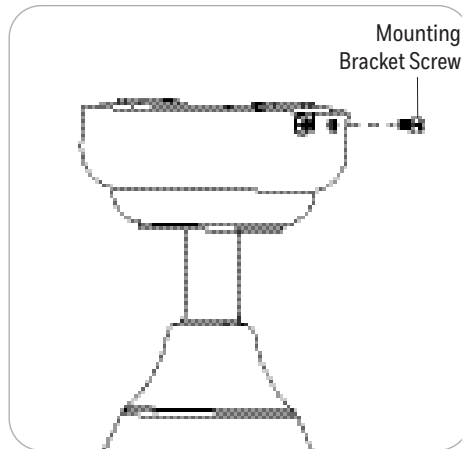

Figure 6.2
2. Align the canopy over the loosened mounting bracket screws. Place the J-slot of the canopy onto the mount bracket screws and rotate clockwise. Secure the canopy with the two previously removed mounting bracket screws. Tighten all the mounting bracket screws securely (Figure 6.2).